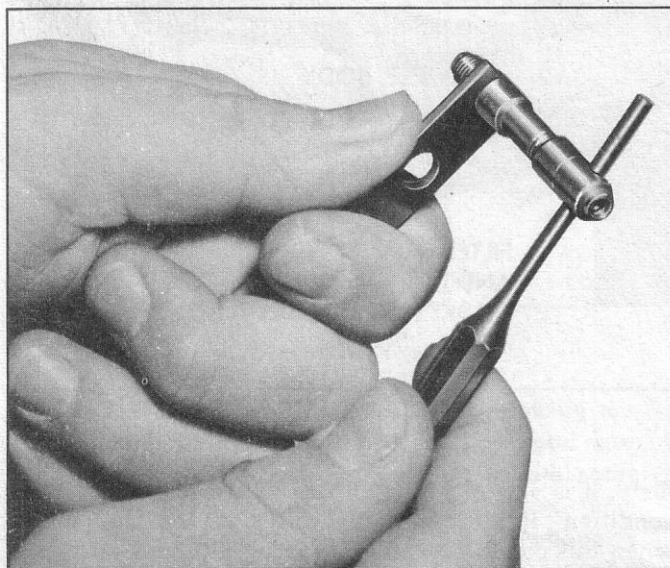

Fig. 61—Disassembling Nozzle
4. Hold nozzle body and insert appropriate tool in head to disassemble the unit (fig. 61). Remove any burrs caused by disassembly.